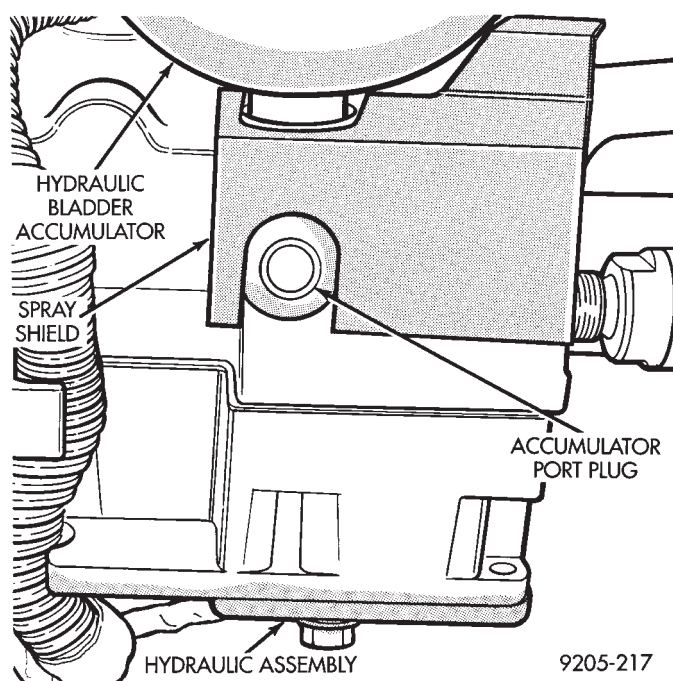

Fig. 1 Hydraulic Assembly Accumulator Port Plug Location
(2) Remove hydraulic assembly accumulator port plug, located on right hand side of hydraulic assembly (Fig. 1).